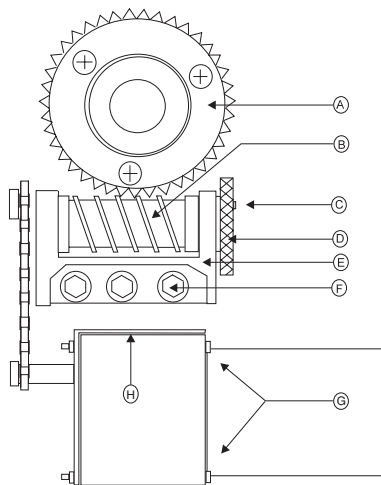

Figure 11. Pan/Tilt Adjustments
3. Refer to Figure 11. It shows the parts locations of the tilt assembly. Look for similar orientations of parts when adjusting the pan assembly.
- a. Verify that the worm drive (B) is fully seated in the worm gear (A). If it is not:
- (1) Locate the worm-driven gear for either the pan or the tilt motor linkage. Loosen the three hex screws (F) holding the worm in place, but leave enough thread in place to hold the assembly on the mount.
- (2) Using your thumbs, gently move the worm forward or pull the assembly back from the worm gear to either tighten or loosen the gear spacing to the worm gear. Move the base of the pan and tilt to check the adjustment.
- (3) If you get movement in the base, press a finger down in the middle of the worm assembly. If you get no movement in the base, use your thumb and forefinger to pull the worm assembly back until you get movement.
- (4) When the spacing is correct, tighten the hex screws. Start with the middle screw to ensure proper spacing.
- (5) Remove the screw (C) in the gear train nut (D).
- (6) Tighten the gear train nut to remove any play.
- (7) Line up the hole in the gear train nut with the nearest hole in the gear train bracket (E).
- (8) Replace the screw.
- b. Refer to Figure 11. Adjust chain tension, if needed:
- (1) Locate the pan or tilt motor on the assembly. Loosen the hex screws (G) that hold the motor to its mounting bracket. Depending on which motor assembly you are adjusting, there will be either three (pan) or four (tilt). (Only two screws are shown in Figure 11.)
- (2) Using a screwdriver, pry the motor down at H to tighten for the correct chain tension. (You should not be able to freely move the motor with your finger, nor should it be so tight that it will not move at all as this usually leads to binding.)
- (3) Tighten the hex screws.